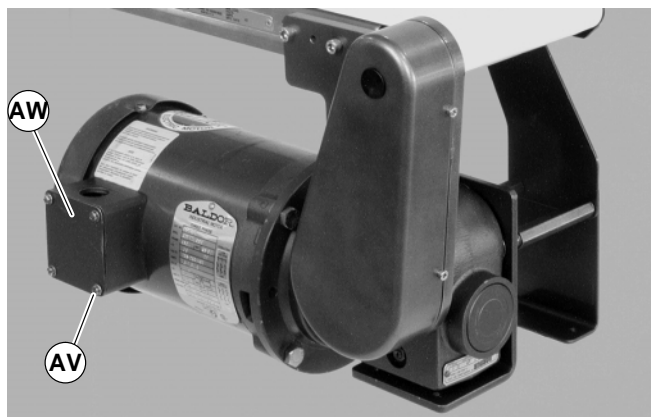

Figure 26
- a. Loosen terminal box screws (AV of Figure 26) and remove cover (AW).